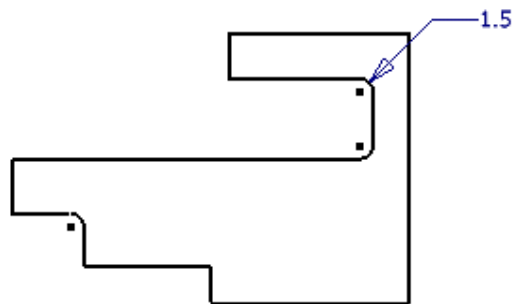

Figure 2-78 Final sketch after filleting
As all lines are filleted with the same radius value, the radius of the fillet is not displayed on other fillets. This completes the sketch. The final sketch for this tutorial after filleting all sketches is shown in Figure 2-78.
*In Figure 2-78, the display of axes and grids have been turned off for a better visibility of the lines of the sketch.*